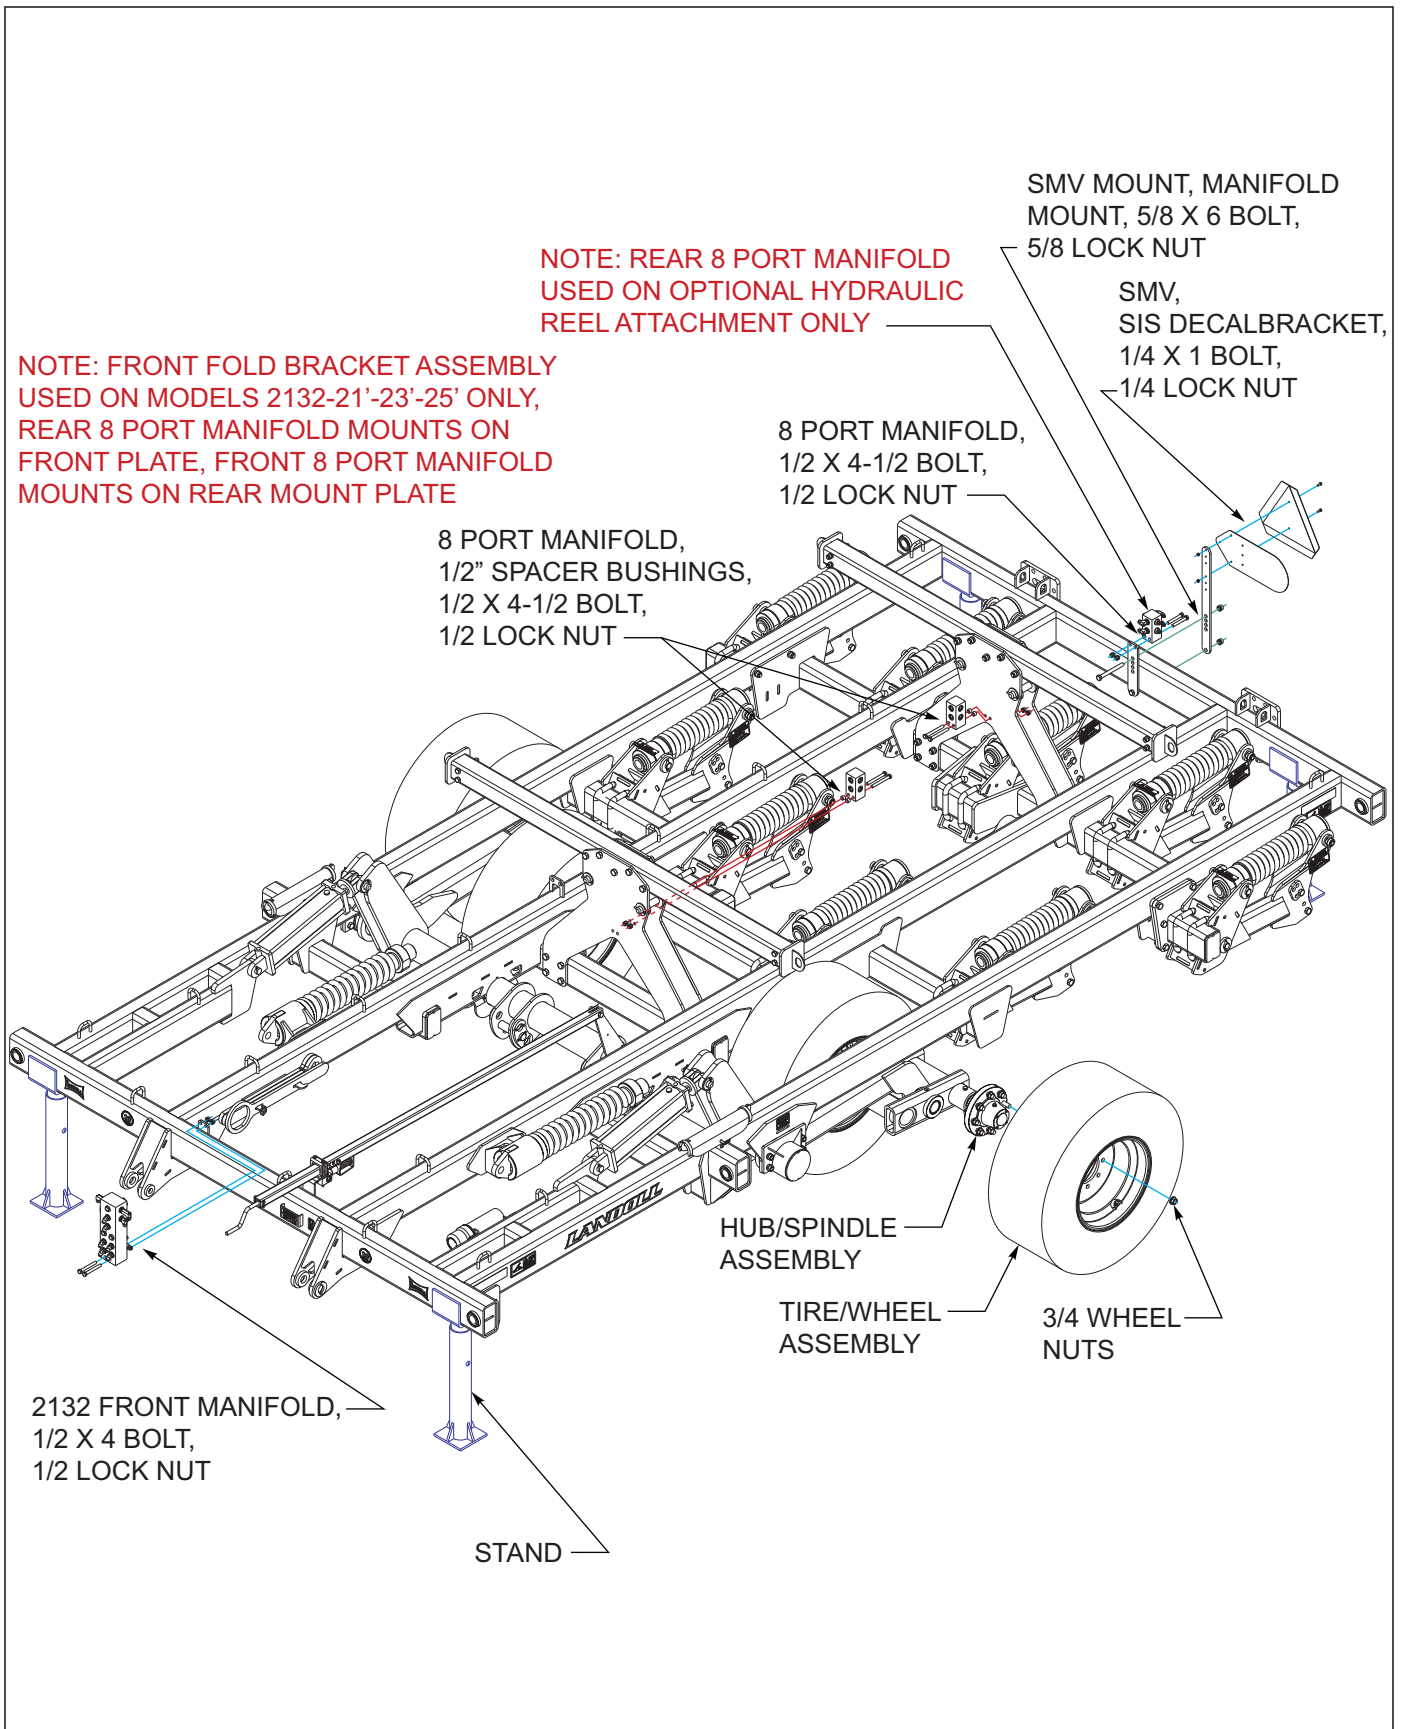

Figure 3-2: Center Frame Assembly
3. Install the 400/60 R18 tire/wheel assemblies to all hub/spindle assemblies using 3/4 wheel nuts, See Figures 3-2. Torque to 250-265 ft/lbs.